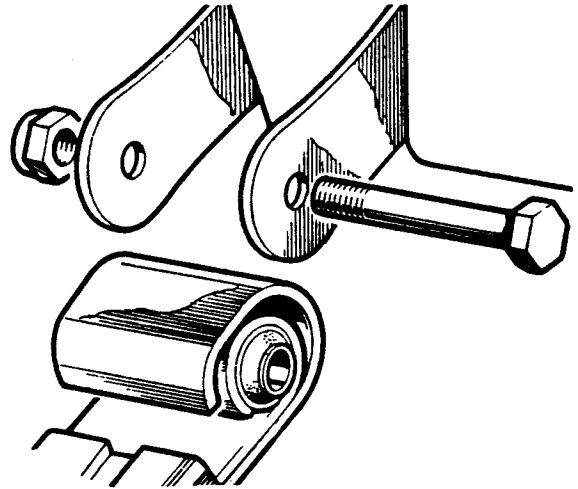

Fig J1.11
- (2) Refer to Fig J1.11. Fit the two rearmost shackle pins but do not tighten any of the six shackle pins at this stage.